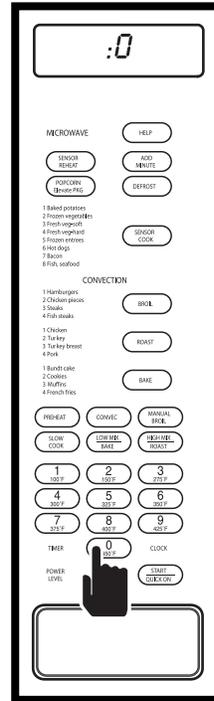

Figure 3-66.
2. Press the number 0 key, “:0 - PRESS - CLOCK” will flash on display (See Figure 3-66).